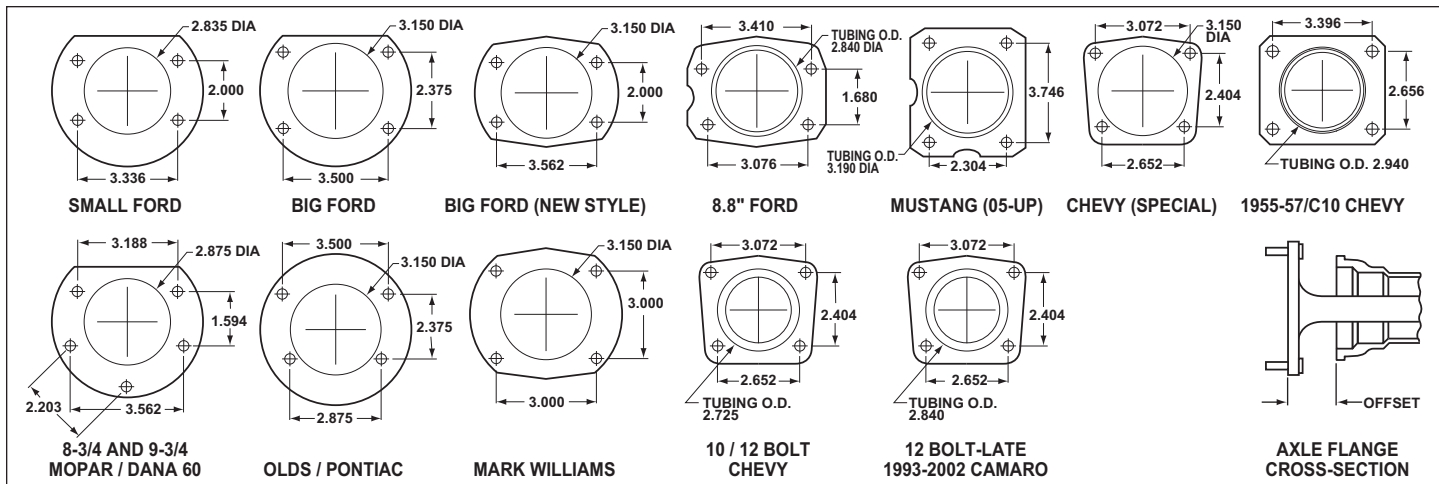

Figure 8. Rear Housing Flange Chart and Axle Flange / Offset Cross-Section
- Make sure this is the correct kit to fit the axle housing flange, not necessarily the rear end make. Many times after market manufacturers put a different make of axle housing flange on the stock rear end housing (see Figure 8). Example; Big Ford rear ends with Olds-Pontiac flanges, therefore, an Olds-Pontiac rear disc brake kit would be the correct kit to order. Also, shock clearance may be a problem. They may have to be modified and/or relocated to clear the Wilwood kit after final assembly.
- Dimension from wheel side of axle flange to wheel side of axle housing flange (see Figure 8, next page, lower right hand corner). This dimension is critical to ensure proper alignment of the rotor to the caliper, and should match offset given in the kit description.